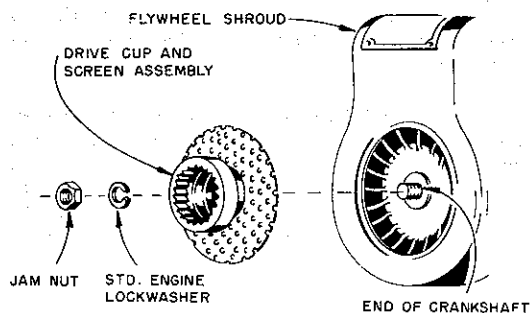

FIG. 2
- With reference to Fig. 2, remove flywheel nut from end of crankshaft and discard, but retain lockwasher. Mount drive cup and screen assembly and secure in place with standard engine lockwasher and new jam nut.